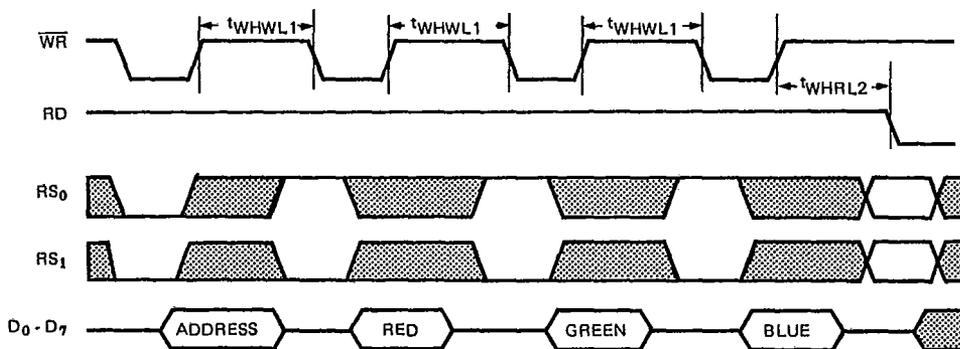

Figure 10. Color Value Write Followed by any Read.
The Pixel Address register is a byte-wide latch that receives and latches address information applied to pins P₀-P₇. It can be used in both Read and Write mode depending on the logic state of RS₀ and RS₁. With RS₀ = RS₁ = 0 (register select = 0, 0), the Pixel Address register is in the write mode. Two events normally precede WRITING one or more new color definitions to the color palette. The first is the specification of a color palette address. Second, the Color Value register must be loaded with a color definition. The sequence of data transfer is (1) the desired color palette address - this address is stored in the Pixel Address register and (2) the color definitions: RED, GREEN and lastly, BLUE. Refer to Figures 10 and 11.
Value register for a total of 18 bits. This new color definition is then transferred to the location pointed to by the information stored in the Pixel Address register. As soon as this transfer is completed, the Pixel Address register is auto-incremented. This allows consecutive color palette locations to be updated without the micro-processor specifying each address. All that is necessary is to continue supplying the RED, GREEN and BLUE data for each consecutive address. Refer to Figures 10 and 11.